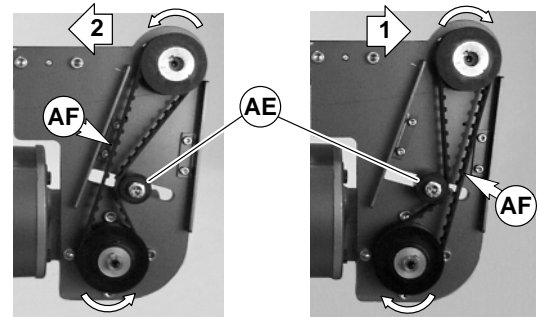

Figure 13
11. Depending on direction of conveyor belt travel (1 or 2 of Figure 13), position belt tensioner (AE) as shown. Tension belt to obtain 0.125" (3 mm) deflection for 1.0 lb (456 grams) of force at belt mid-point (AF). Tighten tensioner screw to 103 in-lb (12 Nm).
3. Depending on direction of conveyor belt travel (1 or 2 of Figure 13), position belt tensioner (AE) as shown. Tension belt to obtain 0.125" (3 mm) deflection for 1.0 lb (456 grams) of force at belt mid-point (AF). Tighten tensioner screw to 103 in-lb (12 Nm).
5. Depending on direction of conveyor belt travel (1 or 2 of Figure 13), position belt tensioner (AE) as shown. Tension belt to obtain 0.125" (3 mm) deflection for 1.0 lb (456 grams) of force at belt mid-point (AF). Tighten tensioner screw to 103 in-lb (12 Nm).